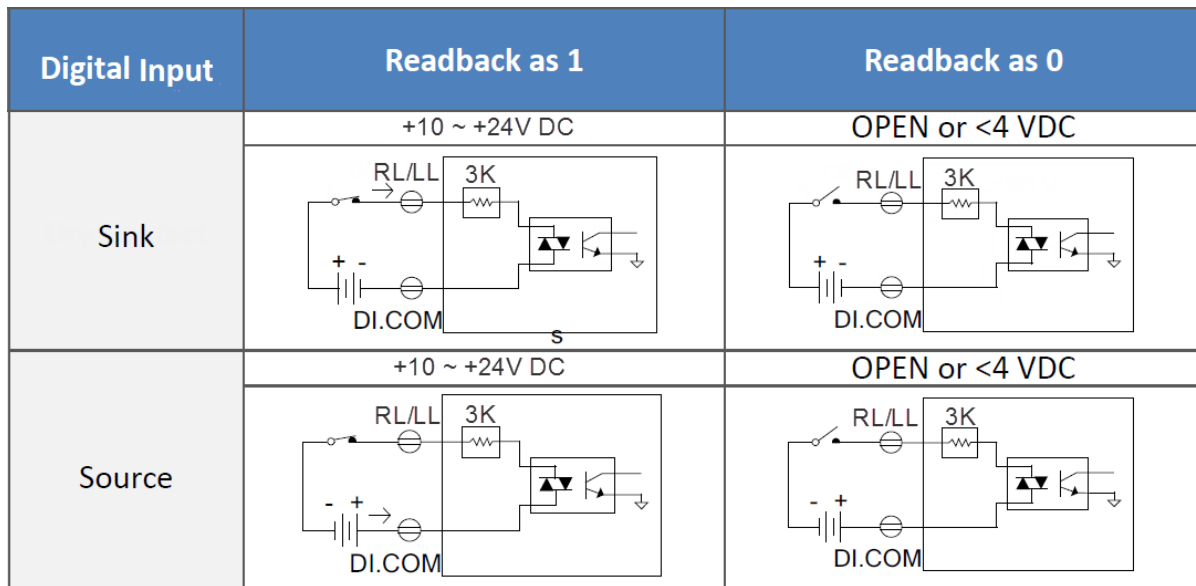

Figure 6: Digital inputs RL and LL
The diagram for right (RL) and left (LL) limit switch wiring is shown below (Figure 6). The digital input RL and LL can be used as a simple DI, a positive and negative limit switch and a position latch trigger. The DI channels can be set to simultaneously act as a limit switch and a position latch input.